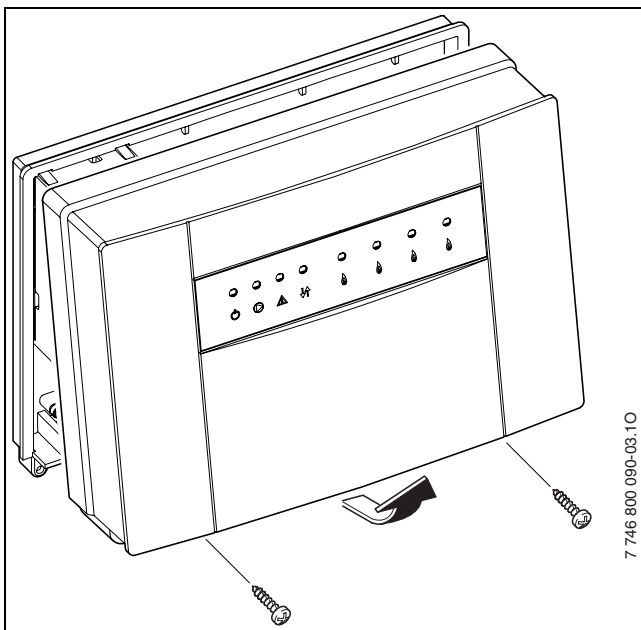

Fig. 7 Removing the cover
- Undo 2 screws at the bottom of the MCM10 module, pull the lid at the bottom forward and lift off upwards (→ fig. 7).